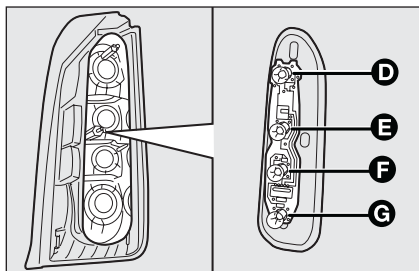

fig. 29
- extract the bulbs **D - E - F - G** fig. 29 by pushing them slightly and turning them anticlockwise;